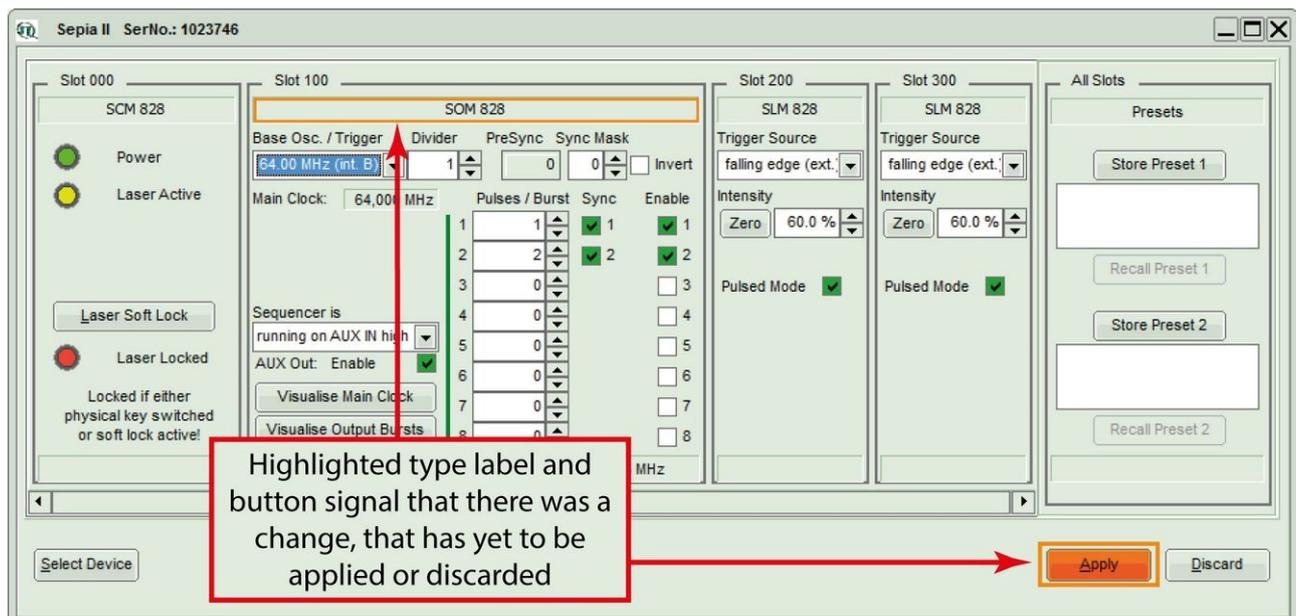

Fig. 40: Elements highlighted in orange indicate a recent change of parameters, which have to be applied or discarded
*Apply* and *Discard* buttons **20** must be used to confirm or discard the configuration changes made in the GUI. In the example shown in Fig. 40, changes have been made to the parameters of the oscillator module. The *SOM 828* label and the *Apply* button are therefore highlighted in orange and remain highlighted until the changes are either applied or discarded.